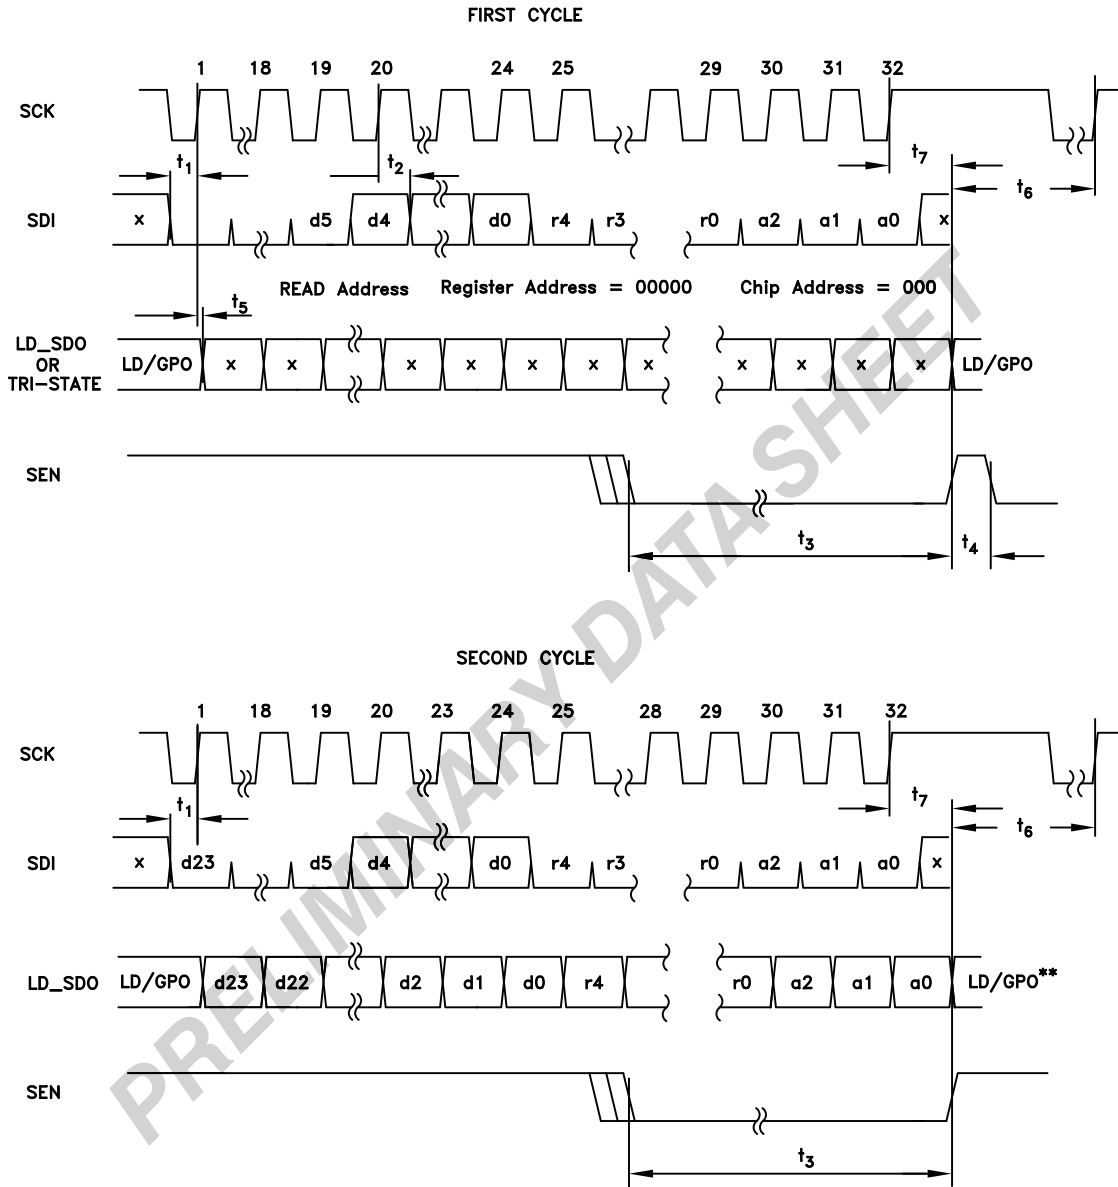

Figure 73. Serial Port Timing Diagram - READ
A typical READ cycle is shown in Figure 73.
- The Master (host), on the first 24 falling edges of SCLK places 24-bit data, d23:d0, MSB first, on SDI as shown in Figure 73. d23:d5 should be set to zero. d4:d0 = address of the register to be READ on the next cycle.